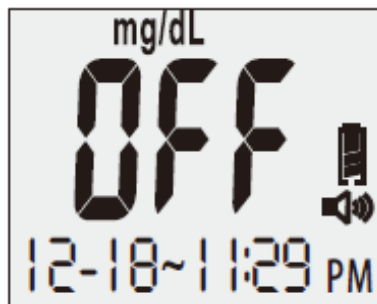

Figure 3-18
5. Once you remove the used strip, the meter will turn off automatically and you will hear: “**Goodbye.**” The LCD screen will then display “**OFF**” (see Figure 3-18).